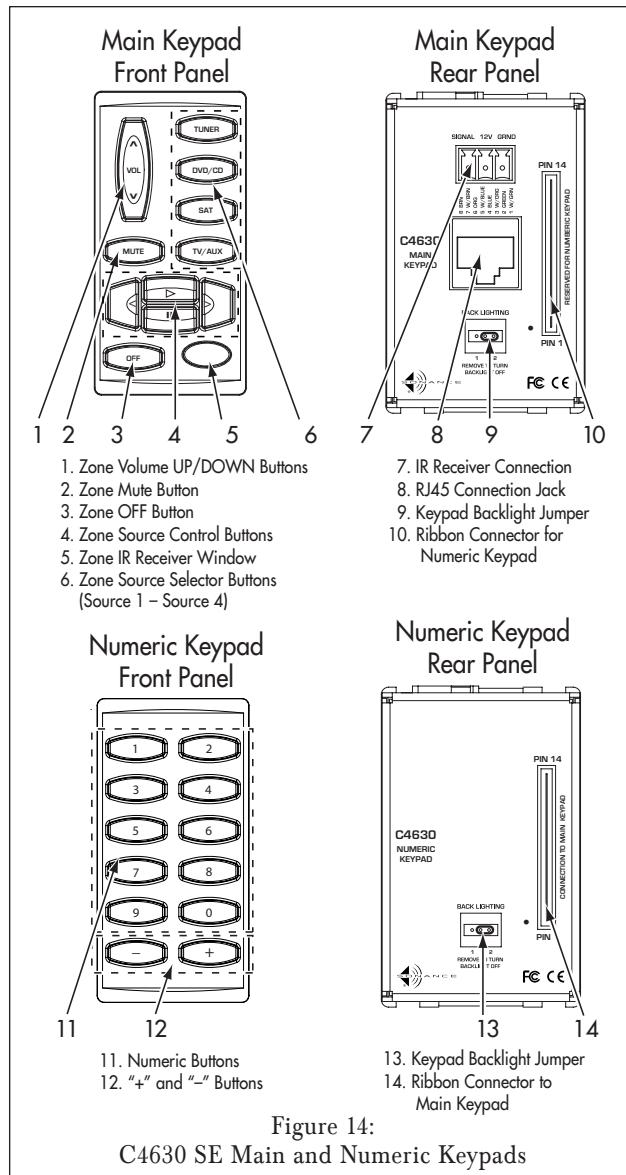
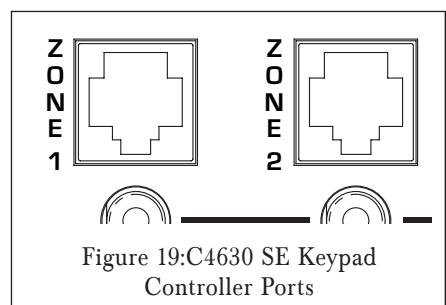

Figure 14:
Figure 19:C4630 SE Keypad
C4630 SE Main Keypad (see Figure 14)
C4630 SE Numeric Keypad (see *Figure 14*, on page 18)
- Connect the CAT5/RJ45 cable to the RJ45 Connection Jack on the back of the Main Keypad (see *Figure 14*, on page 18) and to the zone's Keypad Controller Port on the C4630 SE (see *Figure 19*).
The buttons on the optional C4630 SE IR remote will perform the same functions as the correspondingly-named buttons on the Main and Numeric Keypads (see Figure 14, on page 18). Additionally, the remote also has an ALL OFF button and an OK button.
Without additional programming via the Sonance Control Manager, the C4630 SE has very limited functionality. The following functions are available "out-of-the-box" through the C4630 SE Main Keypad (see Figure 14, on page 18) and the optional IR remote: